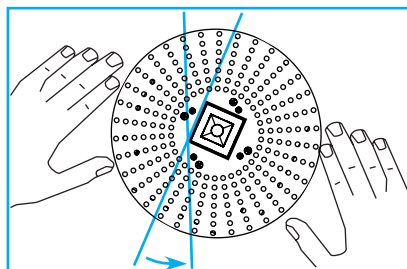

Fig. 13
**Important:** Square appliques require alignment. Use string line or laser level to obtain uniform or desired alignment between multiple fixtures or adjacent wall planes. Hand-tighten retaining screws when complete (**Fig. 13**).